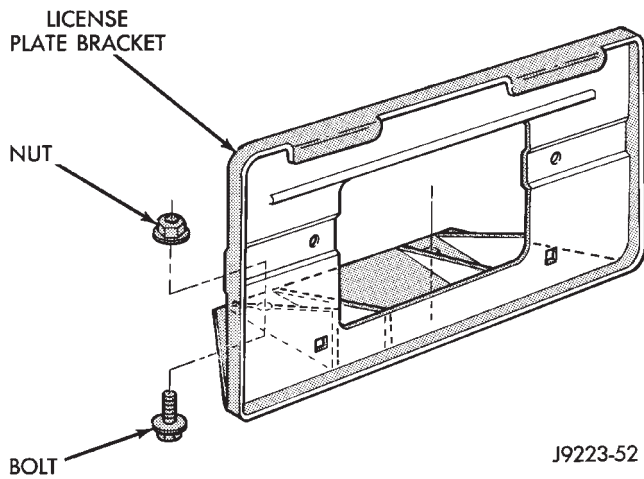

Fig. 9 Bumper License Plate Bracket Removal/ Installation
(11) Remove the license plate bracket (Fig. 9), if equipped, from the bumper rail.